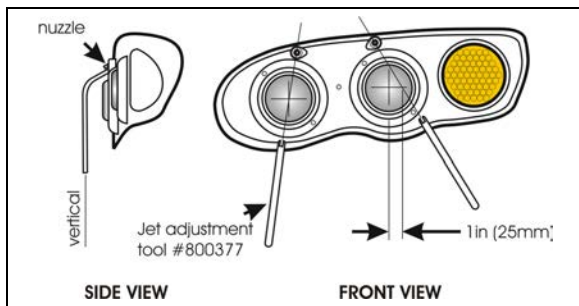
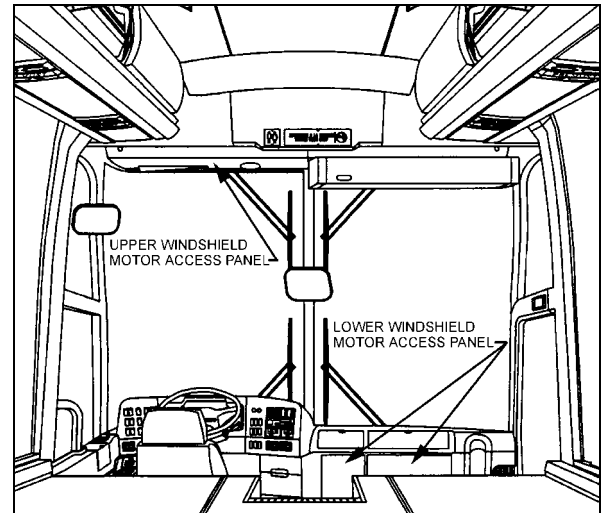

FIGURE 36: WASHER NOZZLES ADJUSTMENT 23363
FIGURE 37: WIPER MOTORS LOCATION 23319
1. Remove the cap nuts from the wiper arm pivot shafts (Fig. 36 and 37);
2. Disconnect the windshield washer tubing at the base of the wiper arm (Fig 36 and 37);
3. Lower windshield wiper (Fig. 36): loosen the clamping set screw securing the drive arm to the knurled arm pivot shaft;
4. Remove the drive and idler arms (Fig. 36) or arm assembly (Fig. 37);
5. Relocate the drive arm (Fig. 36) or arm assembly (Fig. 37) on its knurled pivot shaft to obtain the desired position;
6. Lower windshield wiper (Fig. 36). Tighten the clamping set screw to secure the drive arm to the knurled shaft. Fit the idler arm onto the idler pivot shaft.
9. Check the adjustment on a wet windshield (Fig. 36 and 37).
1. Remove the cap nuts from arms (Fig. 36 and 37);
2. Disconnect the windshield washer tubing at the base of the wiper arm (Fig. 36 and 37);
4. Lower windshield wiper (Fig. 36): loosen the clamping set screw on the base of the drive arm;
5. Remove the wiper arm assembly (Fig. 36 and 37).
1. Make sure the wiper motor is in the stop position. Lower windshield wiper (Fig. 36): position the wiper arm on the knurled drive shaft and idler arm on the pivot shaft. Upper windshield wiper (Fig. 37): position the wiper arm assembly on the knurled drive shaft;
4. Lower windshield wiper (Fig. 36): Tighten clamping nut onto the drive arm. Install cap nuts onto the arm shafts (Fig. 36 and 37);
5. Connect the windshield washer tubing at the base of the wiper arm (Fig. 36 and 37);
6. Check the adjustment on a wet windshield (Fig. 36 and 37).